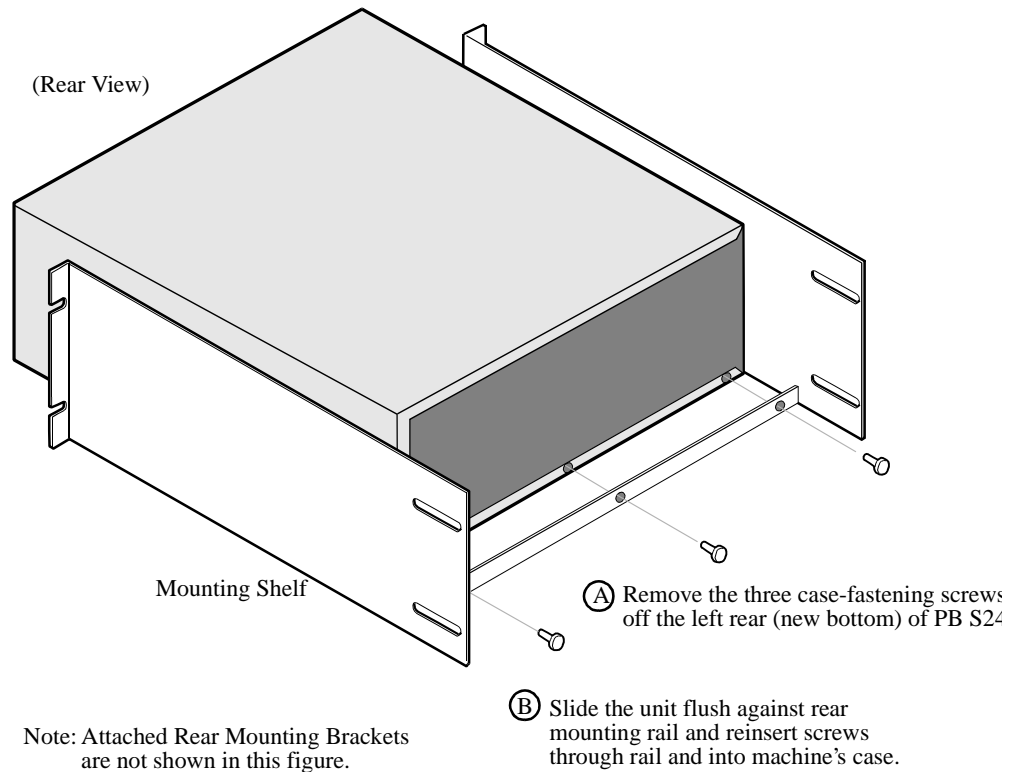

Figure 3. Installing the PathBuilder switch in Rackmount Assembly
4.	Facing the front panel, carefully tip the switch horizontally to your right. Insert the switch into the equipment rack, as shown in Figure 3, leaving enough room at the rear to remove the three case-fastening screws along the new bottom of the unit.